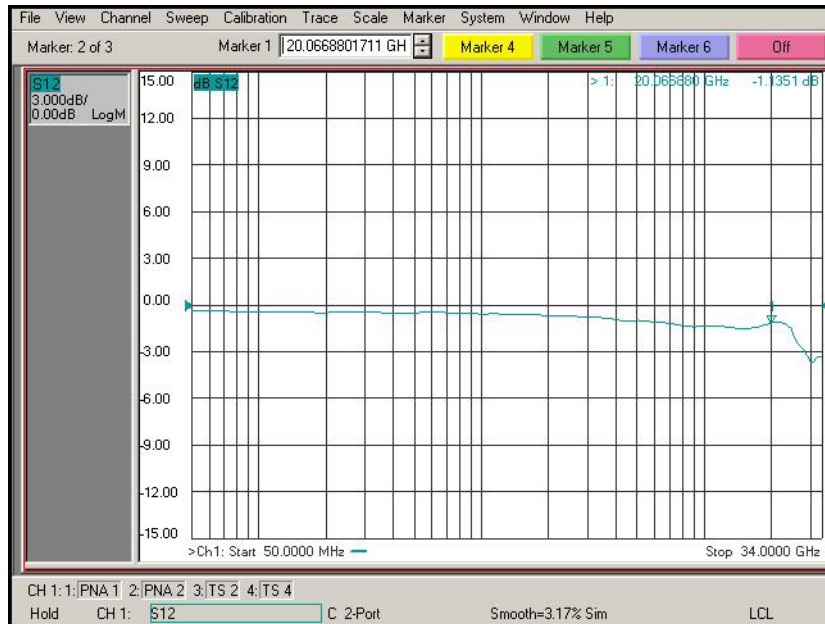

Figure 104 De-Embedded V_{in} Trace
- 10** Trigger the VNA to perform a single sweep. Press “Trigger” under Channel Setup, and then the green soft-key for “Single”. Display should look like **Figure 104** on page 145. If it looks noticeably different, the probe tip wires may not be making contact under the pincher.